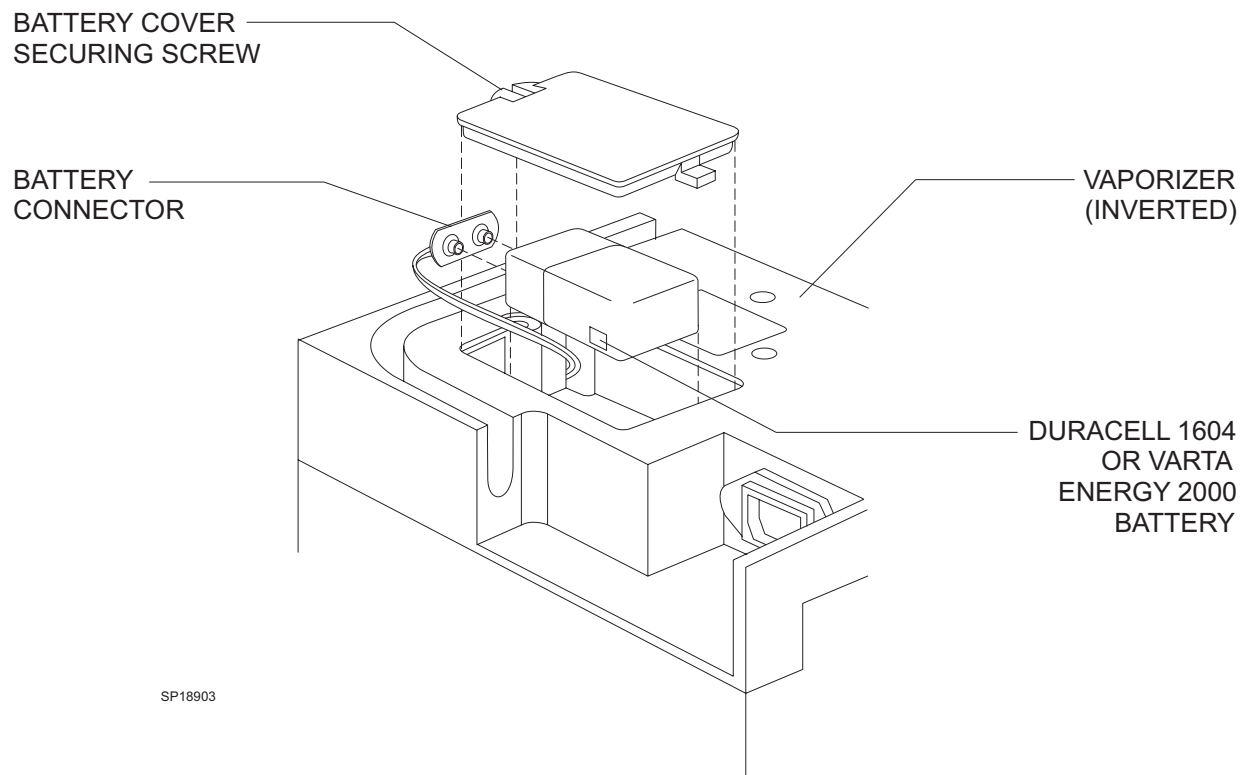

FIGURE 3. Vaporizer Battery Installation
3.1 Invert the vaporizer, unscrew the battery cover and remove the battery from the base of the vaporizer as illustrated in Figure 3.